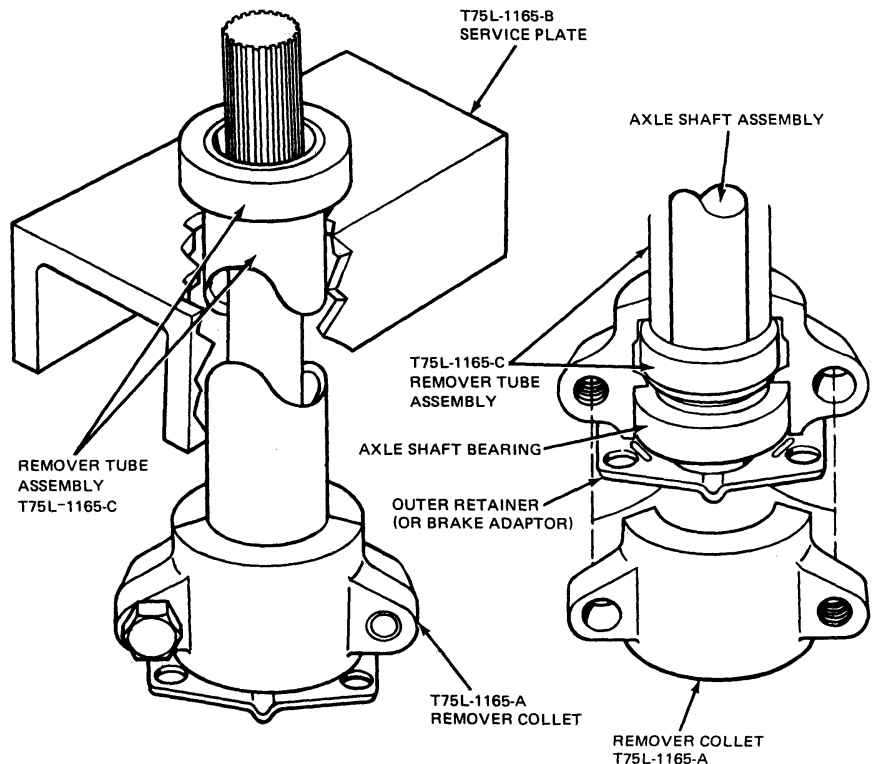

FIG. 8 Removing Bearing Cone Assembly
4. Place the axle shaft in the tool (T75L-1165-A,B,C) as shown in Fig. 8.